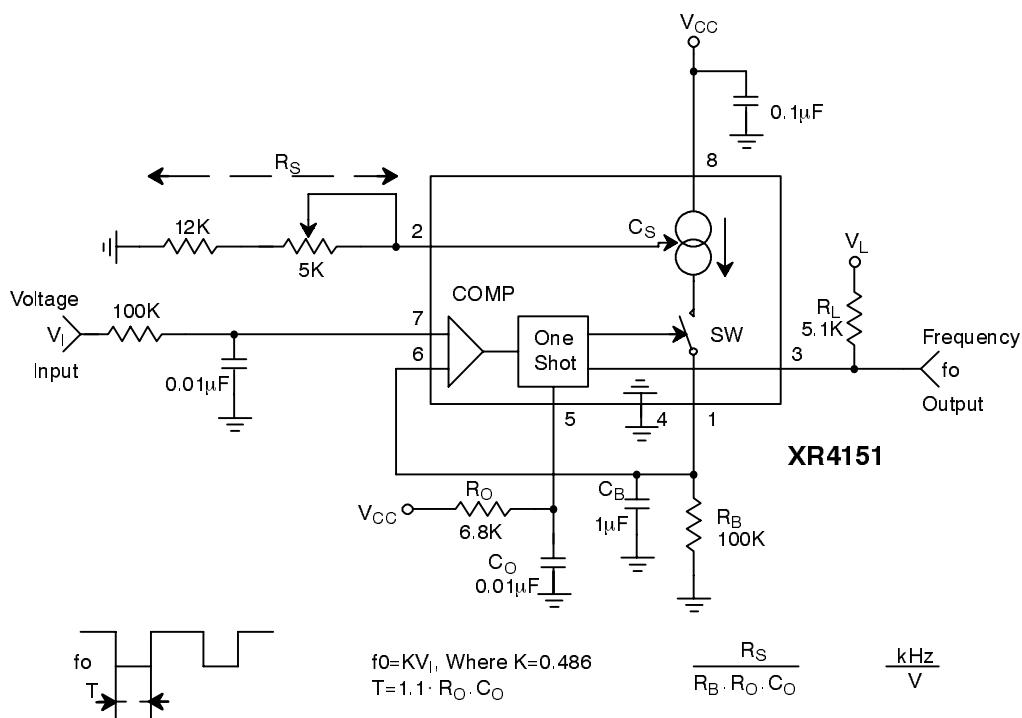
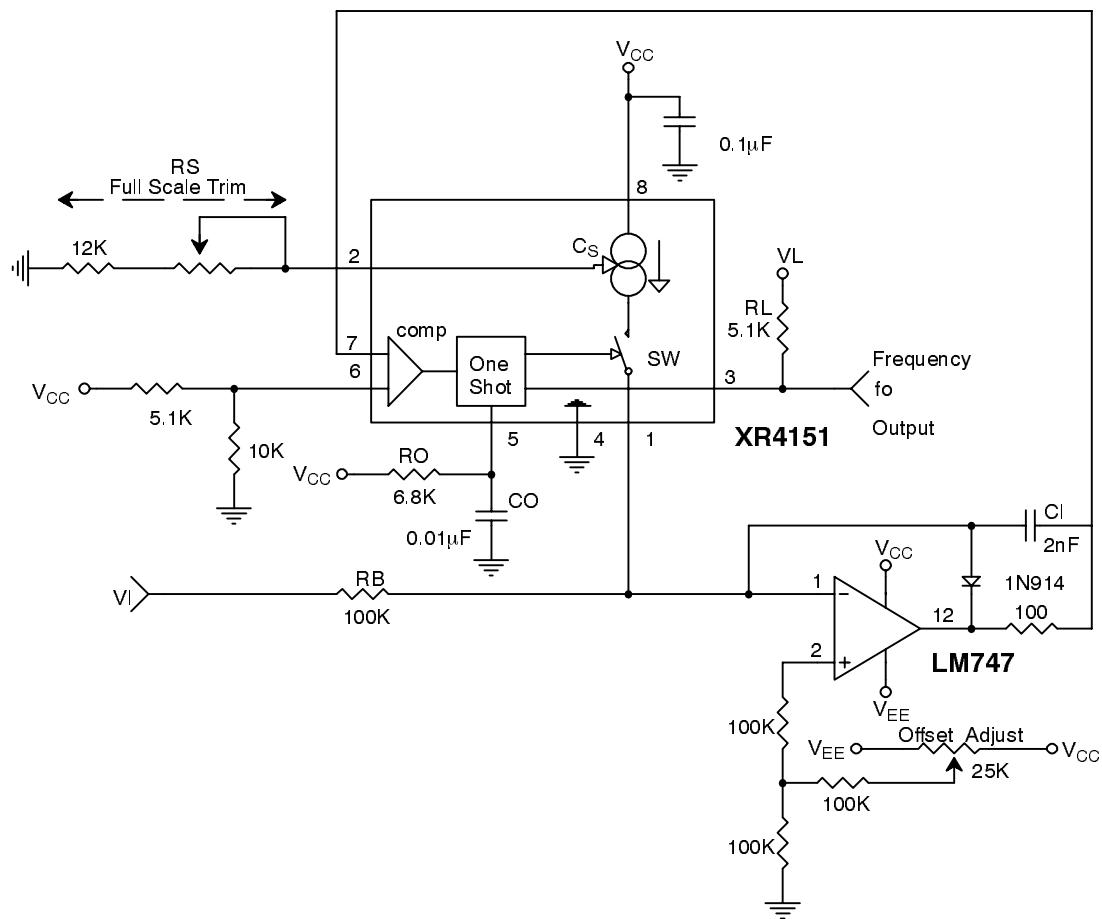

Figure 2. Voltage-to-Frequency Converter
Figure 3. Precision Voltage to Frequency Converter
In this application, the XR4151 functions as a stand alone voltage-to-frequency converter operating on a single positive power supply. Refer to the functional block diagram and *Figure 2*, the circuit connection for single supply voltage-to-frequency conversion. The XR-4151 contains a voltage comparator, a one-shot, and
Figure 2 shows the simplest type of VFC that can be made with the XR4151. The input voltage range is from 0 to +10V, and the output frequency is from 0 to 10kHz. The full scale frequency can be tuned by adjusting R_S , the output current set resistor. This circuit has the advantage of being simple and low in cost, but it suffers from inaccuracy due to a number of error sources. Linearity error is typically 1%. A frequency offset will also be
introduced by the input comparator offset voltage. Also, response time for this circuit is limited by the passive integration network $R_B C_B$. For the component values shown in Figure 2, response time for a step change input from 0 to +10V will be 135msec. For applications which require fast response time and high accuracy, use the circuit of Figure 3.
In this application (*Figure 3*) the XR4151 is used with an operational amplifier integrator to provide typical linearity of 0.05% over the range of 0 to -10V. Offset is adjustable to zero. Unlike many VFC designs which lose linearity below 10mV, this circuit retains linearity over the full range of input voltage, all the way to 0V.
The operational amplifier integrator improves linearity of this circuit over that of *Figure 2* by holding the output of the source, Pin 1, at a constant 0V. Therefore, the linearity
4. Avoid stray coupling between pins 5 and 7; it could cause false triggering. For the circuit of *Figure 2*, bypass pin 7 to ground with at least 0.01μF. This is necessary for operation above 10kHz.
1. Set $R_S = 14k\Omega$ or use a 12K resistor and 5K pot as shown in the figures. (The only exception to this is *Figure 3*).
3. a) For the circuit of *Figure 2* make $C_B = 10^{-2} [1/f_0]$ Farads.
4. a) For the circuit of *Figure 3* keep the values of R_B as shown and use an input attenuator to give the desired full scale input voltage.
- b) For the precision mode circuit of *Figure 3*, set $R_B = V_{IO}/100\mu A$ where V_{IO} is the full scale input voltage.